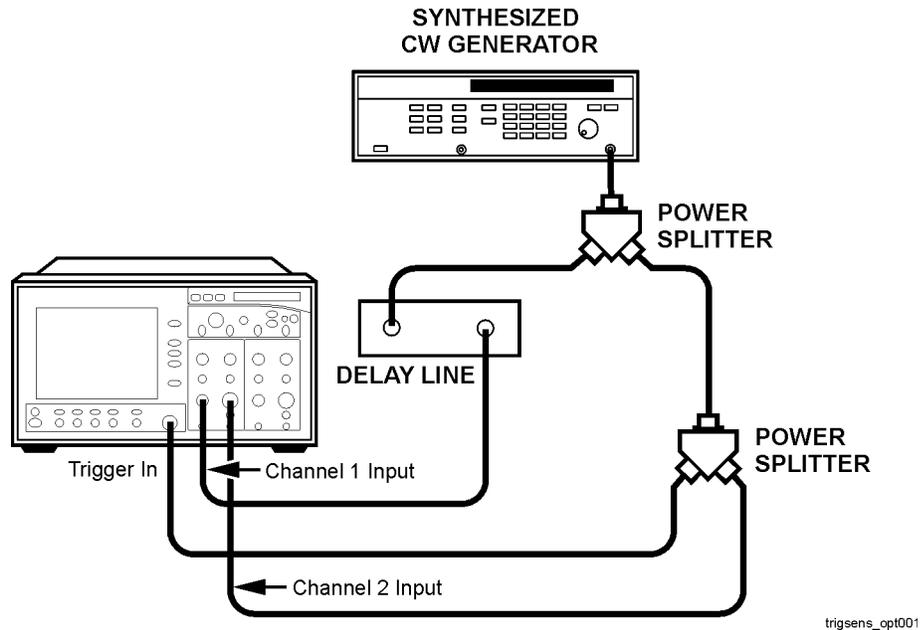

Figure 2-16. Option 001 Trigger Sensitivity
- 1 Connect the equipment as shown in Figure 2-16.